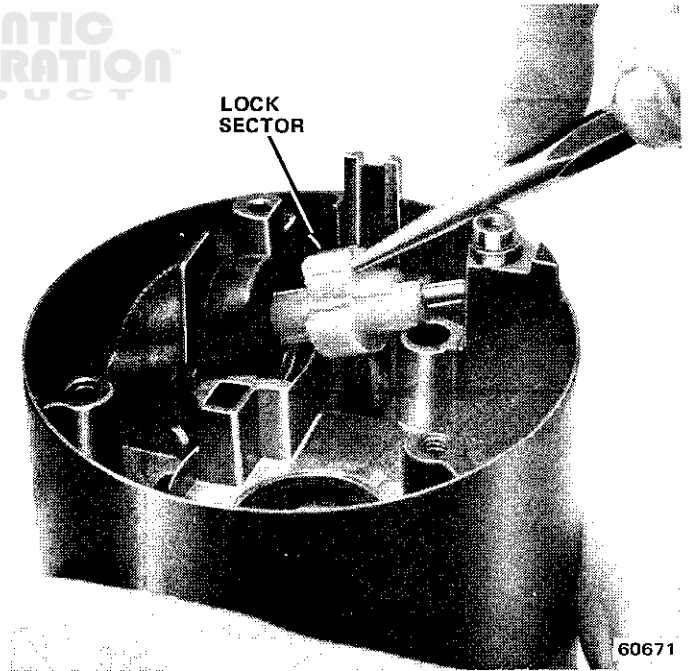

Fig. 2J-16 Lock Sector Removal
(23) Remove wave washer from key release lever pivot and remove key release lever and spring (fig. 2J-13).